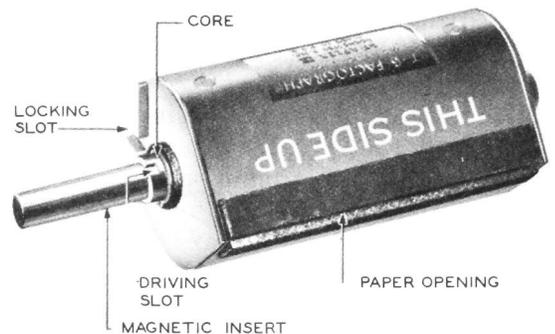

**Fig. 7 – Loading Camera**
1.19 In order to use the KS-16964 L1 loaded cassette, it is necessary that the camera be equipped with an adapter which is mounted on the fixed pin at the trigger side of the camera as shown in Fig. 7. A locating pin on this adapter enters a corresponding hole in the end of the cassette to hold the cassette in the proper position during withdrawal of the paper. Procedures for mounting the adapter are covered in Section 030-301-801. KS-16148 loaded cassettes may also be used in a camera equipped with the adapter.
**4.08** Draw paper from the loaded cassette over the end-of-paper switch finger and under the guide plate, as shown in Fig. 7. Then, in order to break the internal seal provided in the KS-16964 L1 cassette and to facilitate threading the paper into the take-up cassette, firmly draw the end of the paper about 10 inches beyond the metering roller, taking care not to tear the paper. Lower the pressure follower to its position holding the paper against the metering roller.